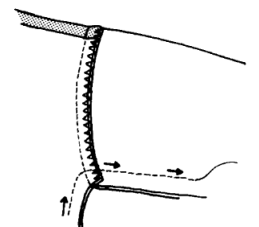

Figure 19
5. With right sides together, match, pin, and stitch underarm seam and garment side seam in one continuous line of stitching (Figure 19). Finish seam allowances.